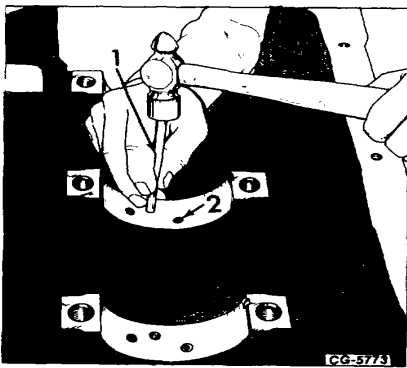

Figure 20. - Removing/Installing Piston Oil Jet Tubes
- a. Remove damaged tubes with a pilot driver (1, Fig. 20) as shown.
- b. Install new oil jet tubes with the same pilot driver shown in Fig. 20.
- c. The jet tube (when installed) must not project above the surface; but must be recessed 3 mm (1/8 inch) below the surface as shown in (2, Fig. 20).